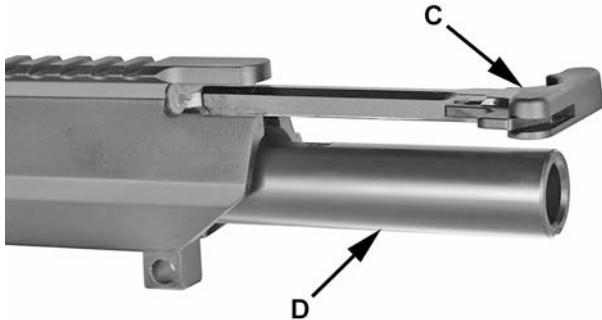

Figure 27
6. Pull back on the charging handle (C) to remove charging handle and bolt carrier assembly (D). See figure 27 & 28.